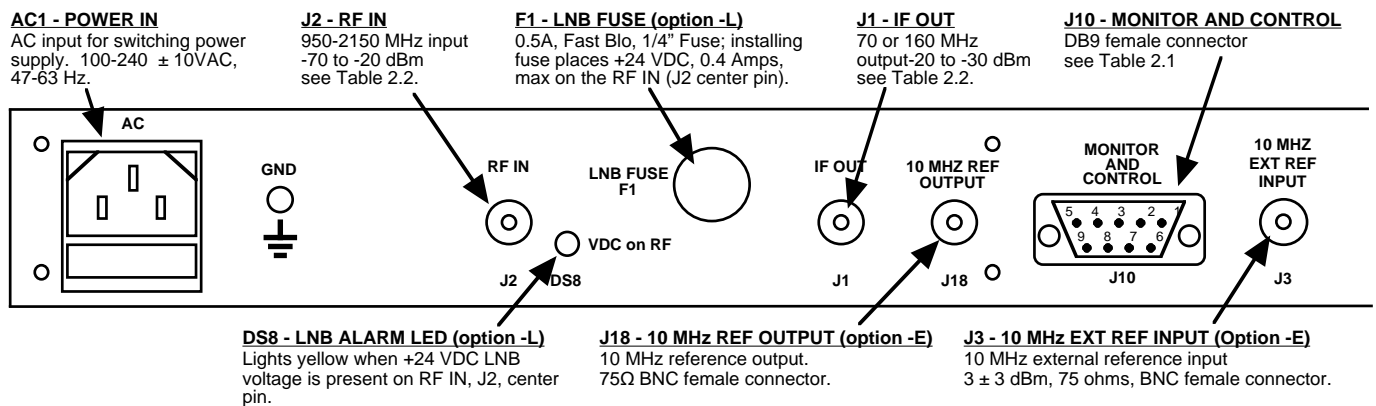

FIGURE 2.2 2016-02-160 Rear Panel I/Os
Figure 2.2 shows the input and output connectors on the rear panel.
1. Connect a -20 dBm to -70 dBm signal to RF IN, J2 (Figure 2.2)